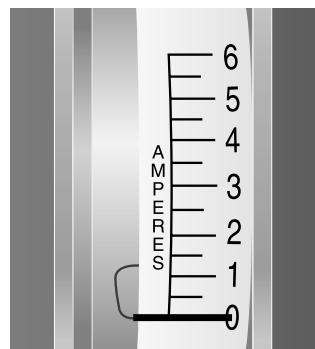

FIGURE 12. AMMETER INDICATES BATTERY IS FULLY CHARGED
You can also check the charge by the ammeter which is visible on the rear electronics module. The battery charger must be plugged into a wall outlet to obtain a reading. When the amperage reading is at or near zero (0) amps, the battery charging is complete. See figure 12.